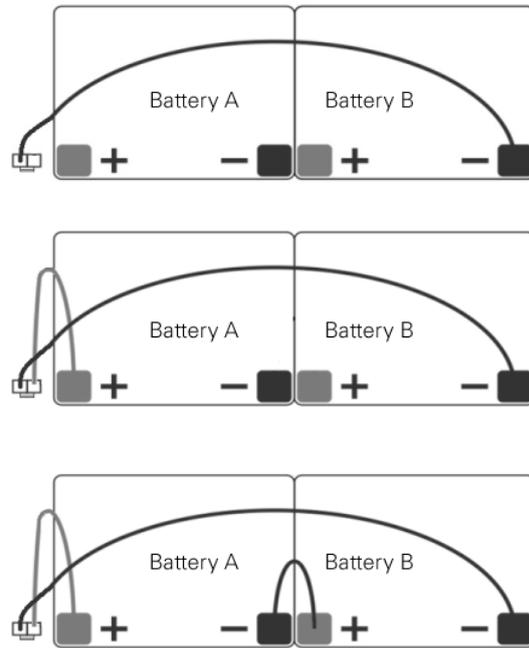

Figure 21. Battery Connection
1. Connect the **BLACK** battery wire to the **BLACK (-)** battery terminal of Battery B (Figure 21)